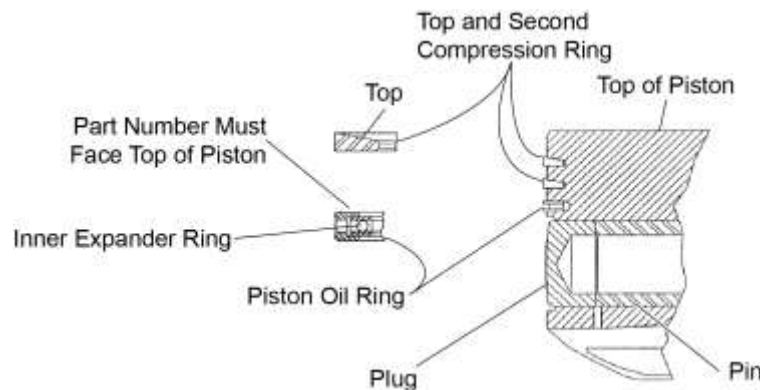

Figure 26
- A. Start from the top down, use the commercially available piston ring expander tool to remove the two top piston compression rings, the piston oil ring, and the inner expander ring (with the piston oil ring) (Figure 26).
- C. With the piston top side up on a workbench, install the inner expander ring with the part number facing toward the top of the piston in the first groove above the piston pin hole (Figure 26).